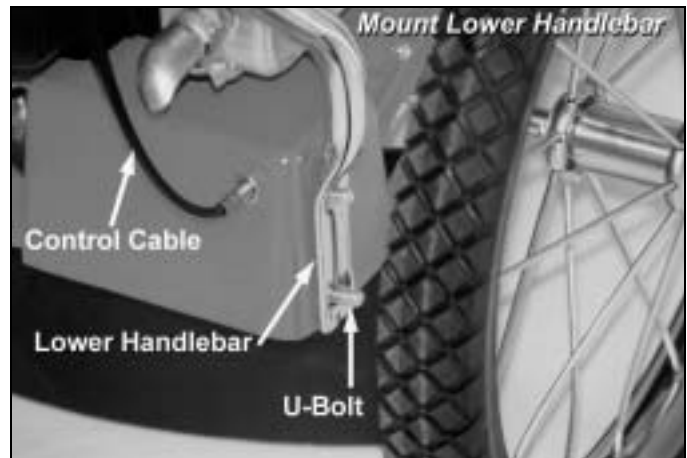

Figure 9
1. With the control cables on the inside of the handlebars, position the lower handlebar over the bolt holes in the trimmer frame (Figure 9).
2. Place the U-bolts through the bolt holes in the trimmer frame from the inside out (Figure 9). Make sure the black control cable is not beneath the U-bolt.